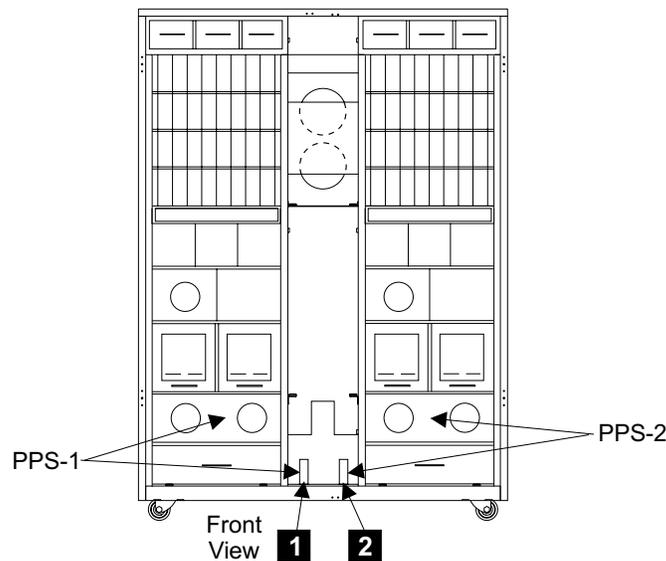

Figure 229. Line Cord Bracket Connectors (S008605m)
- PPS 1, **1** [Figure 229]
- PPS 2, **2** [Figure 229]